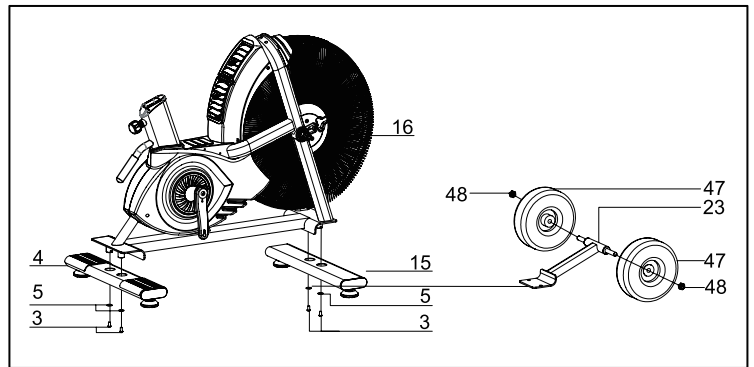

Fig. 1
### STEP 1 (FIG. 1):
1. When powered on, the LCD will fully display for 1 second (as shown in Figure 1) with a long beep sound.
(FIG 1)